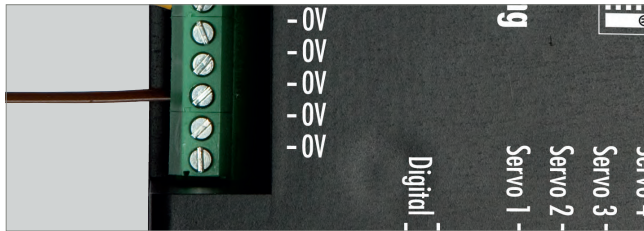

Fig. 6: Connect the return wires of the push buttons
- ▶ For each push button, connect the return wire of the push button to one of the »0V« ports on the Servo Control, see Fig. 6.